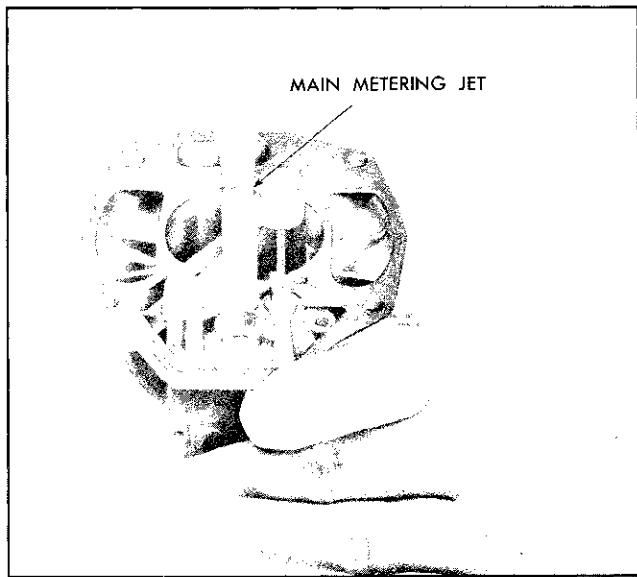

Fig. 6B-10 Removing Main Metering Jet
3. Remove pump plunger from float bowl by pulling straight upward (Fig. 6B-13).